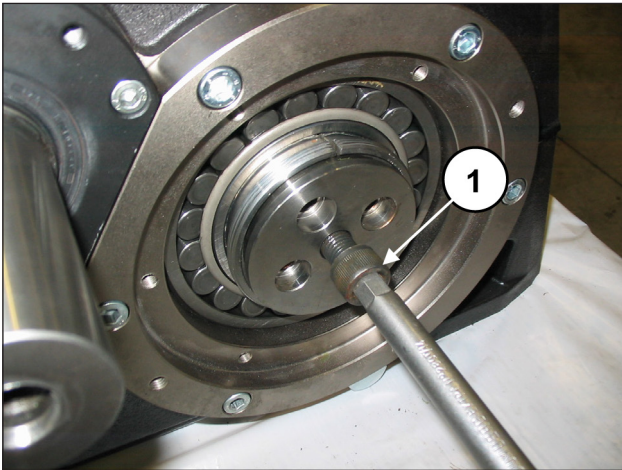

Fig. 79
Apply a sufficiently long (35-40 mm) M16 screw to the M16 hole on the bend shaft and screw it in, until the flange is touching the bush (pos. ①, Fig. 79). Do not tighten the screw.